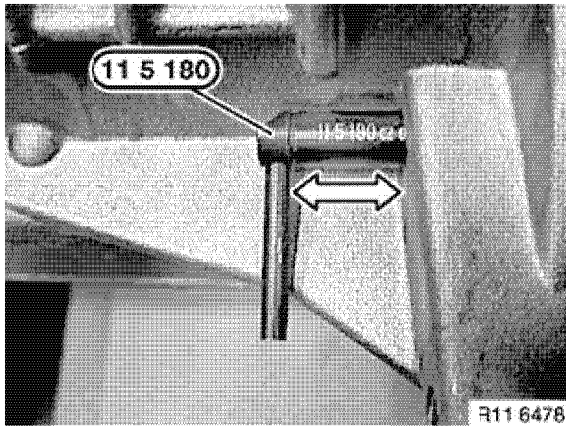

Figure 5-74
4. Secure crankshaft in TDC position with flywheel holding tool OEM No. 11 5 180 (**Figure 5-74**).